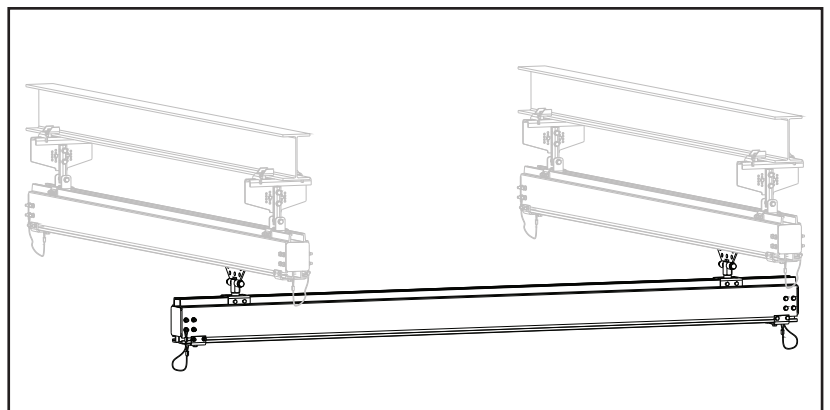

Figure 3-3
- Step 8. Roll load trolley or hoist trolley into rail channel. See Figure 3-3.
- Step 9. Install end caps and stops. See Figure 3-3. Refer to this manual section "End Caps and Stops" page 3-20.